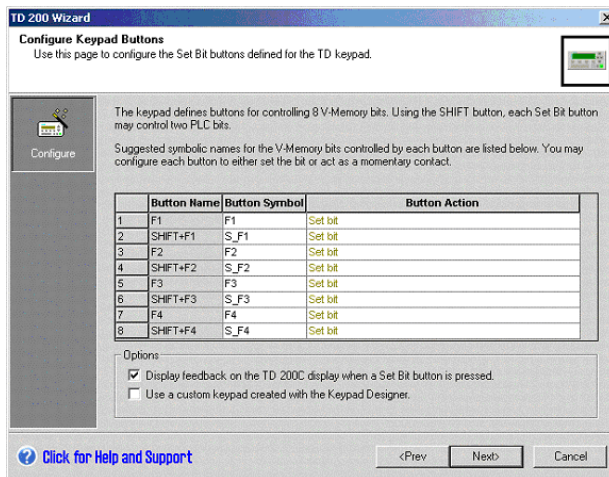

Figure 4-9 Configuring the Functions for the Buttons
1. Select the option for using a custom keypad created with the Keypad Designer. (Find this check box in the Options area of the Configure Keypad Buttons dialog. See Figure 4-9.)
As shown in Figure 4-9, the Configure Keypad Buttons dialog allows you to select a symbol name and an action for each of the configurable buttons on the TD device.